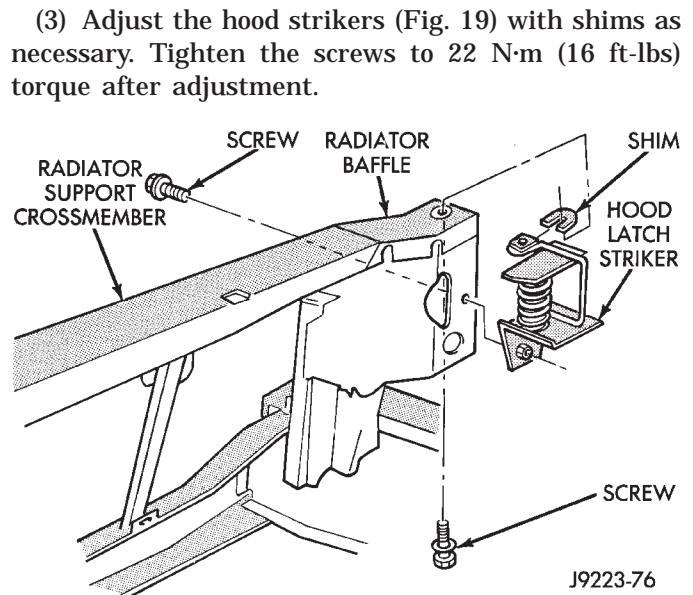

Fig. 19 Hood Latch Striker
(1) Remove the grille opening panel (GOP).
(2) Remove the screws that attach the striker to the radiator baffle (Fig. 19).
(3) Remove the striker and shims from the baffle.